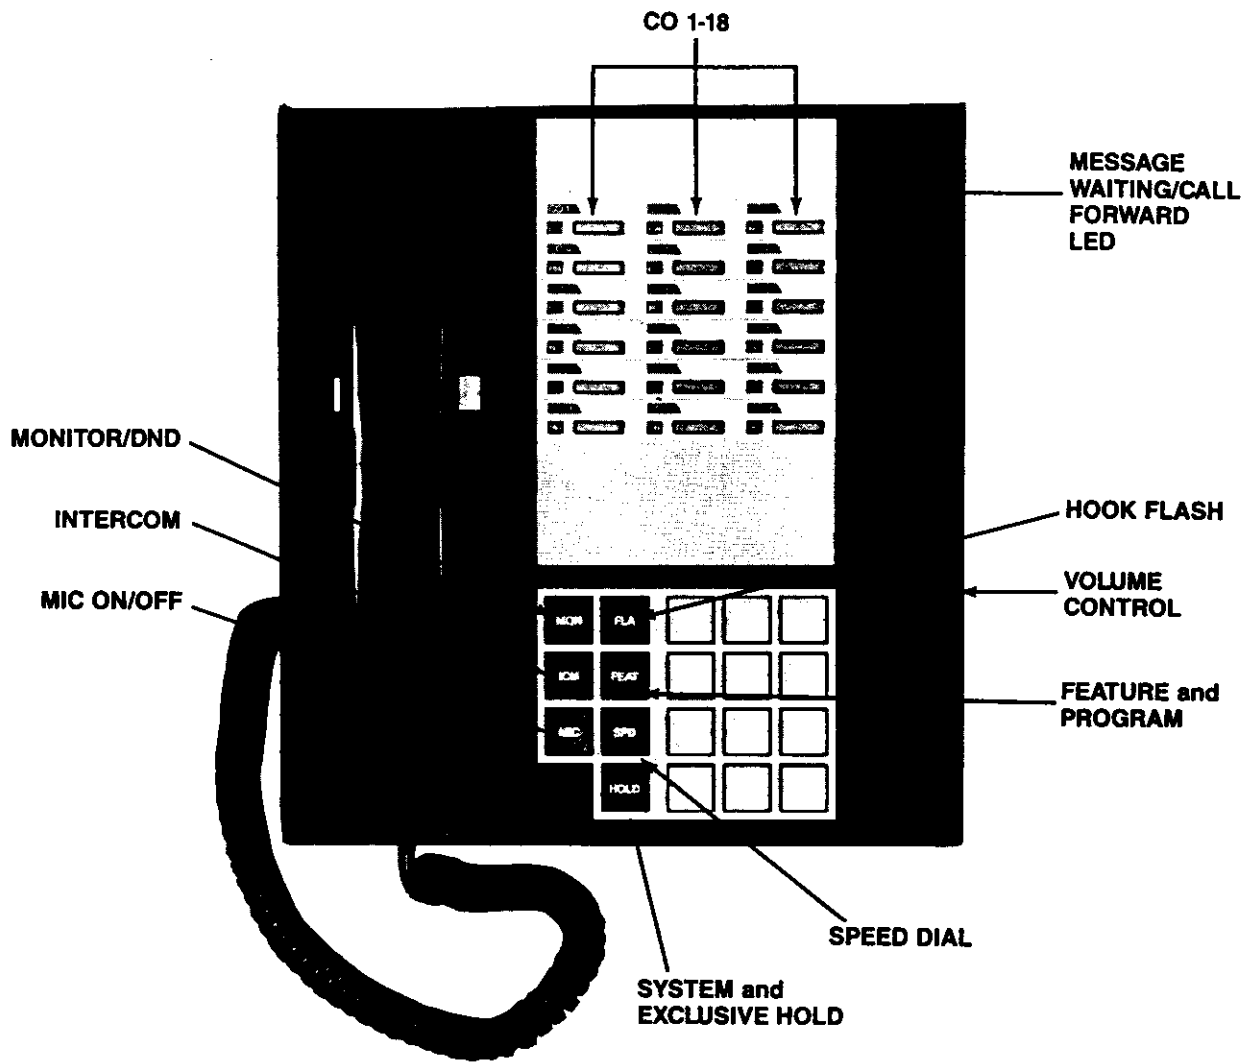

Figure 3-4. 18-Button Electronic Key Telephone.
- Figure 3-4 -- 18-Button Electronic Key Telephone